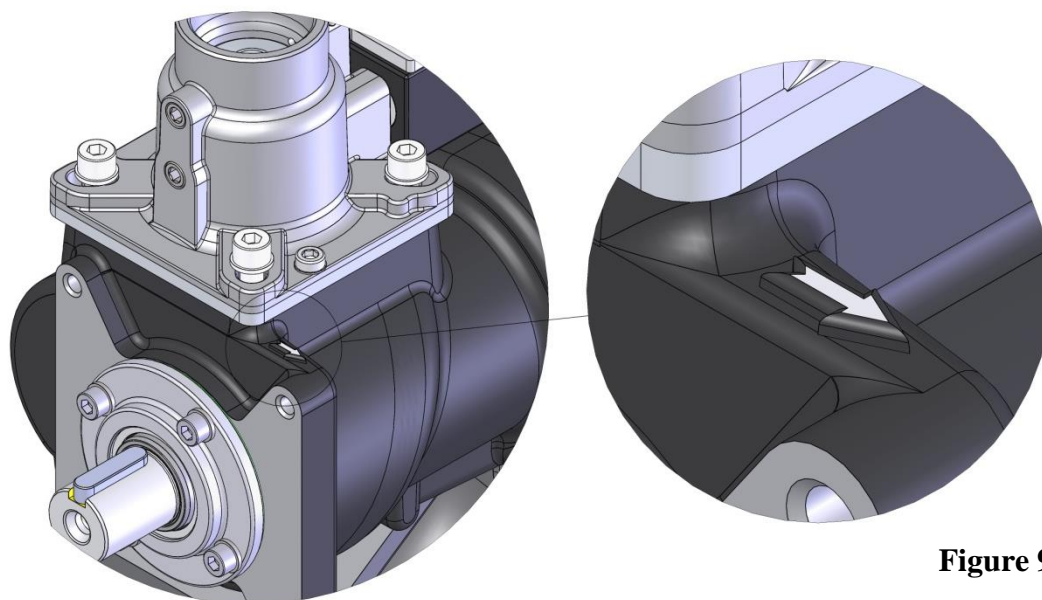

Figure 9
- If the power supply line phases have been correctly positioned, the screw will turn as indicated by the arrow in **figure 9**.
Reverse screw rotation turning opposite the direction indicated by the arrow in relief on the body of the machine (see figure 9) can damage the screw assembly!